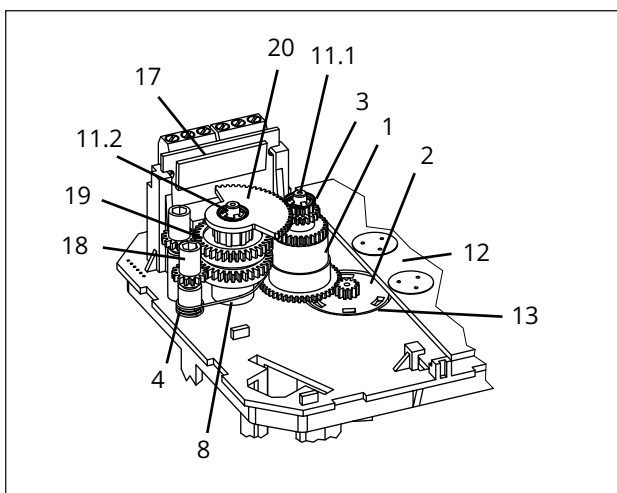
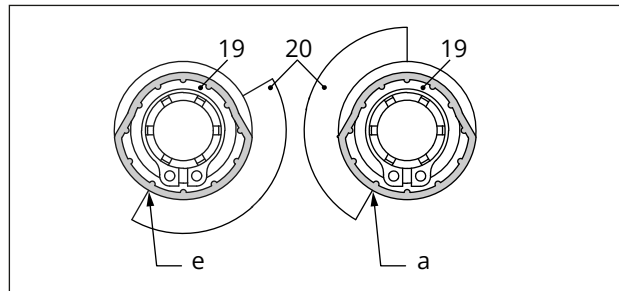

Fig. 20: Inside view of Type 3374 Actuator
Fig. 21: Contact cam and switch carrier
The contact cams (19) are ready-mounted to the cam holder (20) and the retaining rings (9) to form the contact cam unit (21) (see Fig. 21).
4. Slide adjustment gears (18) onto their spindles and fasten with one screw (16) each. Check whether the adjustment gears can be turned easily. Slightly loosen the screw, if necessary.
5. Turn contact cams (19) on the cam holder (20) as illustrated in Fig. 21 corresponding with the position of the actuator stem.
6. Slide the spacer (8) onto the spindle (11.2). Make sure that the long wire of the tension spring rests on the spacer and on the intermediate gear.
7. Slide the contact cam unit (20) onto the spindle corresponding with the position of the actuator stem as illustrated in Fig. 20. Make sure that the outermost cog of the contact cam unit engages in the gearwheel of the intermediate gear (1). In addition, the adjustment gears (18) must en-